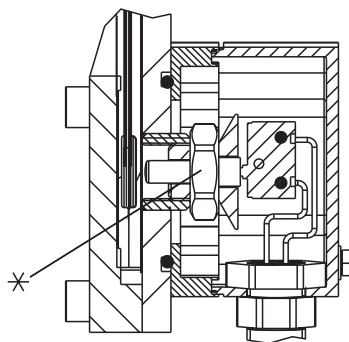

Fig. 25 Diaphragm rupture sensor (*)
- ▶ Remove the protective cover (4) from the turret (see Fig. 25)
- ▶ Remove circlip (2) from the bolt on the coupling head and remove bolt (1)